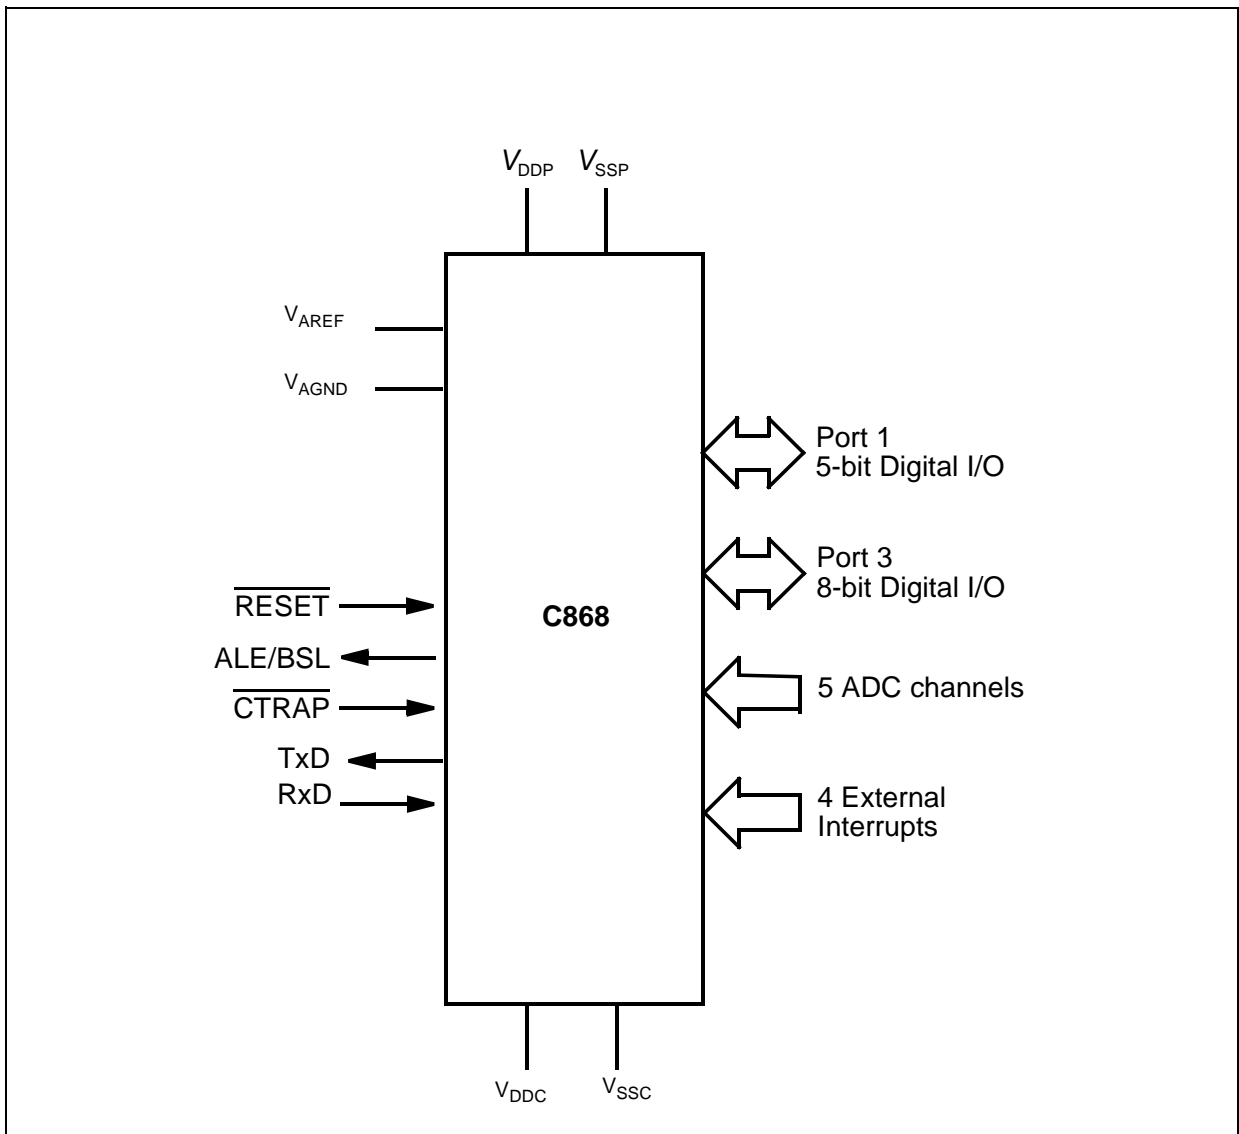

Figure 1-2 Logic Symbol
**Figure 1-1** shows the different functional units of the C868 and **Figure 1-2** shows the simplified logic symbol of the C868.